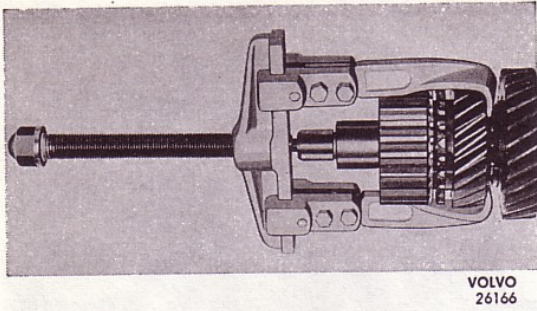

Fig. 22. Removing front synchronizer
3. Remove the locking ring on the front end of the shaft. Pull off the synchronizer hub and 3rd speed gear wheel with a puller, see Fig. 22. Remove the thrust washer.